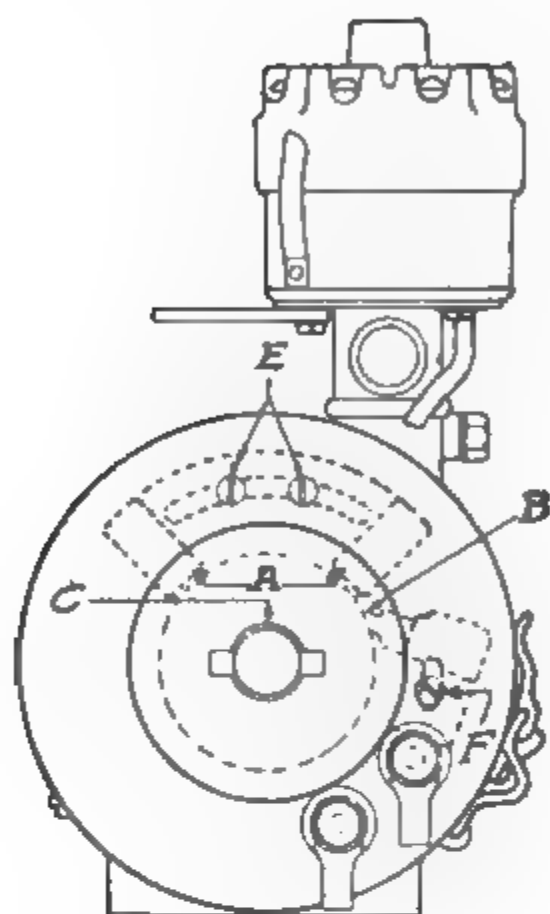

Fig. 293. Diagram of Arrangement of Brushes on Leece-Neville 6-Volt Generator
**Regulation.** Generators of the 1915 and 1916 models are controlled by armature reaction through a third brush, the field coils receiving their exciting current from the armature through this brush. The position of the latter on the commutator is shown at *B*, Fig. 293. A slight rotation of this brush relative to the com-
To increase the output of the generator, rotate the third brush in the direction of rotation of the armature; to decrease the output, move the brush against the direction of rotation. Adjustments should be made with the engine standing. Loosen the screw at the rear of the commutator housing shown at the point *F*, Fig. 293. This releases the third brush holder, and the brush may then be moved in the direction desired. It should be moved only a short distance,
and the generator then should be tested until the desired output is secured. In case the third brush should come in contact with the main brush above in the course of adjustment, it will be necessary to move the main brushes. To do this, loosen the two set screws *E*, Fig. 293, and move the main brush holder far enough away from the third brush so that there is no possibility of contact between them. When the desired location is found, sand-in the third brush to the commutator and also clean the commutator with a piece of worn sandpaper as described in the section on Sanding-In the Brushes (Delco instructions); if it has been necessary to move the main brushes, they should be sanded-in also. The brush holder screws should be well tightened after making any adjustments to prevent any possibility of the vibration and jolting loosening them up and throwing the generator out of adjustment again.